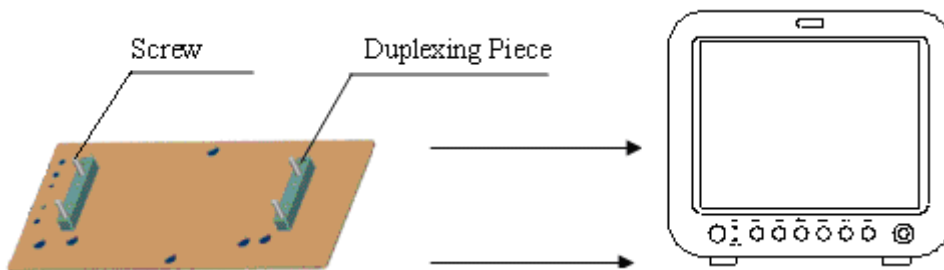

Figure 3-3
6. Face the side with duplexing piece of the device holding plate to the underside of the patient monitor, fix it with M4×25mm screw (as shown in Figure 3-3).